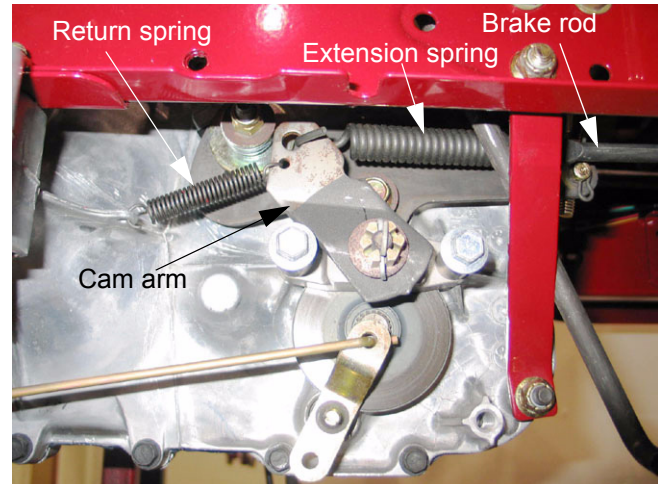

Figure 6.14
6.14. A return spring pulls the cam arm back to relieve the friction when the brake pedal is released. See Figure 6.14.